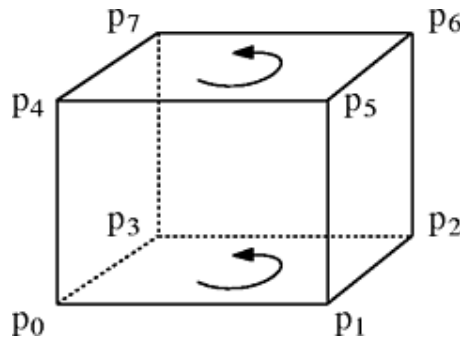

Figure 18.15: Numbering of points in a hexadron with positive volume.
- The `hexas` array describes the actual hexahedra. For each hexahedron, the indices of the eight points and the indices of the six faces it consists of are stored. The numbering of the points is shown in Figure 18.15. Degenerate cells such as prisms or tetrahedra may be defined by choosing the same index for neighboring points.